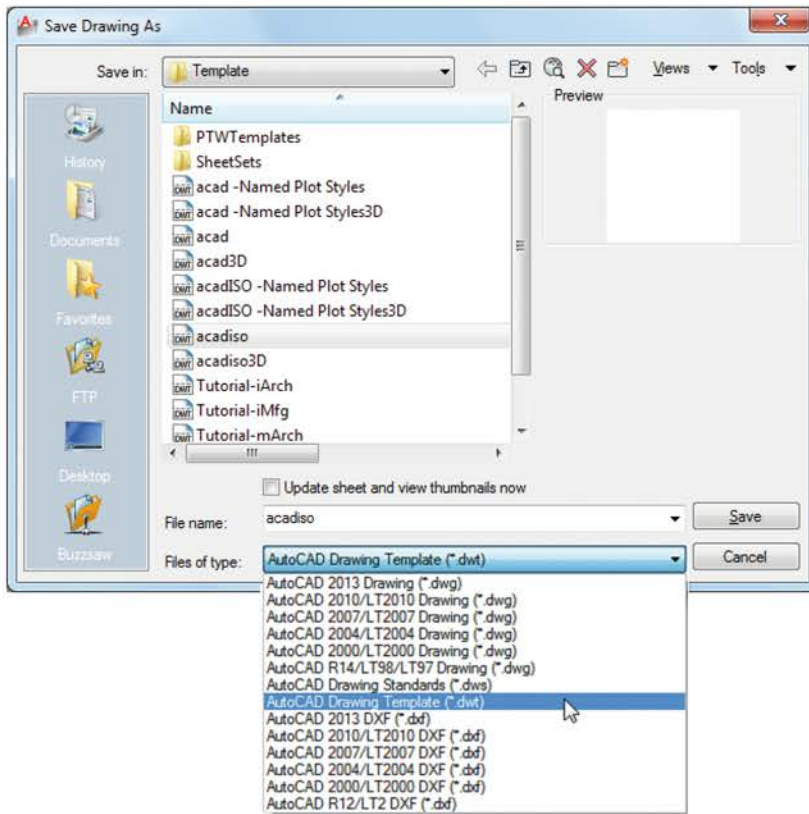

Fig. 5.20 Saving the template to the name acadiso.dwt
2. In the **Save Drawing As** dialog that comes on screen (Fig. 5.20), *click* the arrow to the right of the **Files of type** field and, in the popup list associated with the field, *click* on **AutoCAD Drawing Template (*.dwt)**. The list of template files in the **AutoCAD 2017/Template** directory appears in the file list.